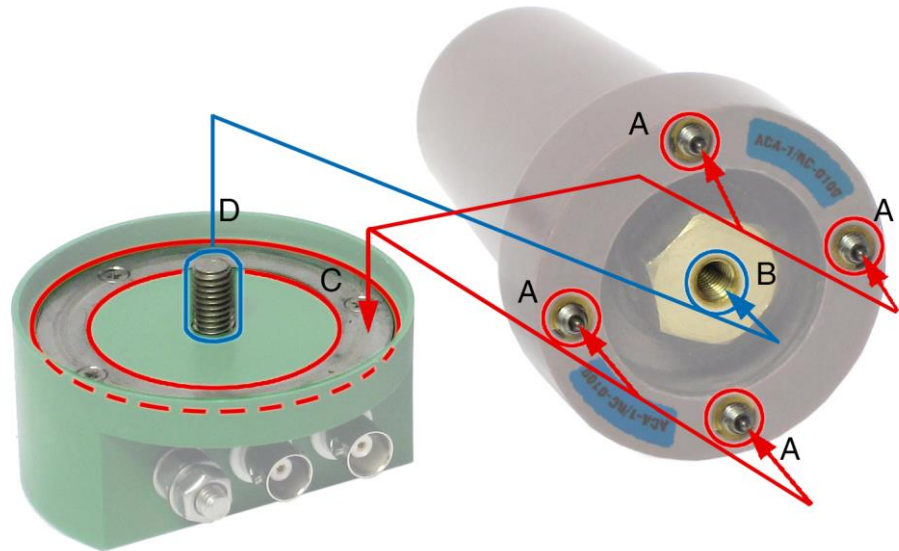

Figure 5 Detail connection of the two blocks
5. Tighten the APMR-1/RC (a value of 10 Nm is recommended) until the four contact points located in the ACA-RC block come into contact with the metallic contact of the APMR-1/RC (see Figure 5). From here, you have two laps to ensure that the BNC connectors are arranged on the side of interest, usually downwards. Once in the desired position, make sure that the piece is mounted securely.